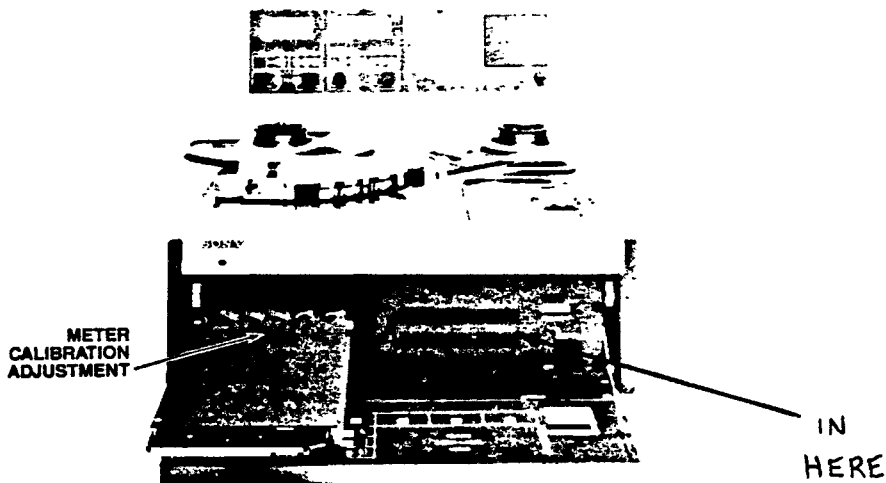

Figure 6-18. CSL Board Access
STEP 2 Open the ALN panel door and remove the two securing screws of the power supply access door panel and open the panel to expose the CSL board (refer to Figure 6-18).